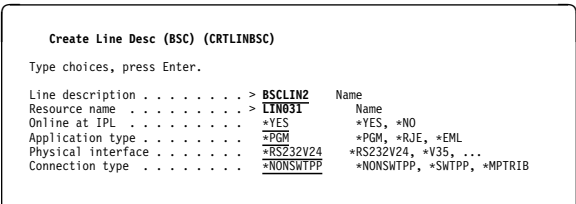

Figure 2-10. BSC Line Description Prompt Display
- 1. You can also enter the name of the configuration object in the first row of the *Configuration Description* column. Then, this name and the resource name are filled in for you on the configuration screen (as in Figure 2-10).
When you press the Enter key you will be shown the create line description prompt display for the line type you selected, with the line description name and resource name prompts already filled in as shown in Figure 2-10.